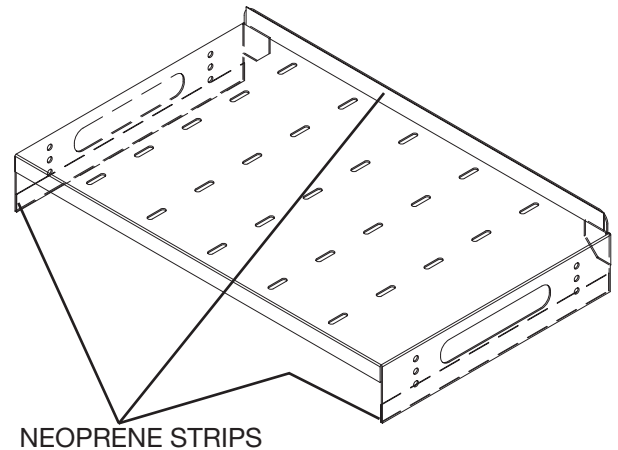

Figure 7.3b - Shelf
- Shelf: inside bottom of flanges and back lip of shelf, see Figure 7.3b.